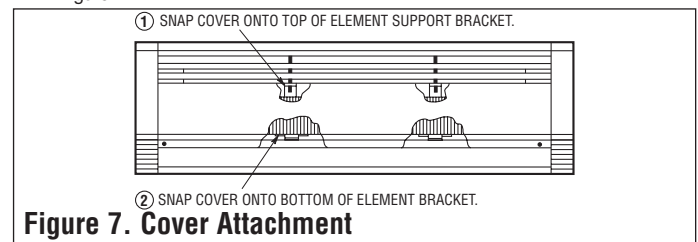

Figure 7. Cover Attachment
- Replace the front cover by fitting the top lip of the cover onto the tabs on each junction box and top edge of the element support bracket(s). Rotate the cover downward, pushing the bottom corners inward. Install two screws (removed in Step 4) through the cover into the junction boxes. See that the bottom of the cover is engaged onto the bottom of each element support bracket. See Figure 7.